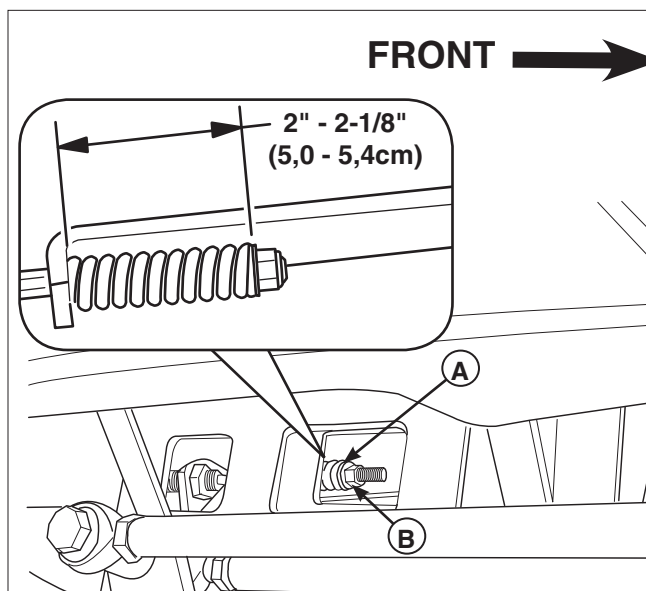

Figure 34. Parking Brake Adjustment
2. Locate the upper brake spring (A, Figure 34) through the opening under the fuel tanks.
4. If adjustment is required, disengage the parking brake and turn the adjustment nut (B).